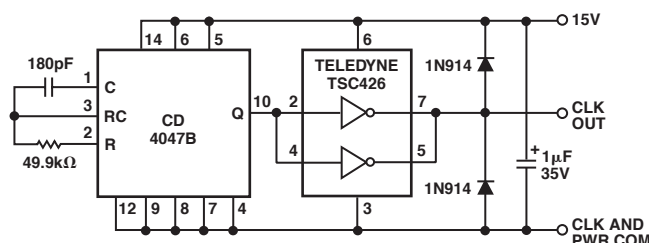

Figure 4. Clock Driver
**AD246 Clock Driver.** The AD246 is a compact, inexpensive clock driver that can be used to obtain the required clock from a single 15 V supply. Alternatively, the circuit shown in Figure 4 (essentially an AD246) can be used. In either case, one clock circuit can operate at least 32 AD204s at the rated minimum supply voltage of 14.25 V and one additional isolator can be operated for each 40 mV increase in supply voltage up to 15 V.